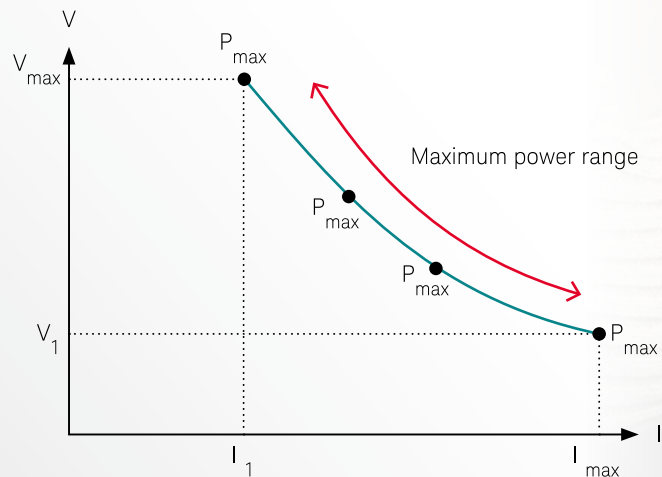

Figure 7. Autoranging output characteristic provides the most voltage-current combinations
3. Autorange output – Provides the most flexibility in voltage and current combinations, allowing more combinations of voltages and current within the power limit of the supply; see Figure 7.